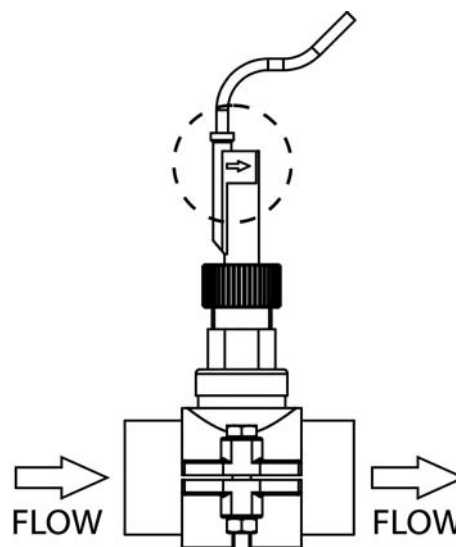

Fig. 14-2
3. There is an arrow on the head of the flow detector. Make sure that this arrow is parallel to the pipe shaft and pointing in the direction that the water flows (Fig. 14-2).